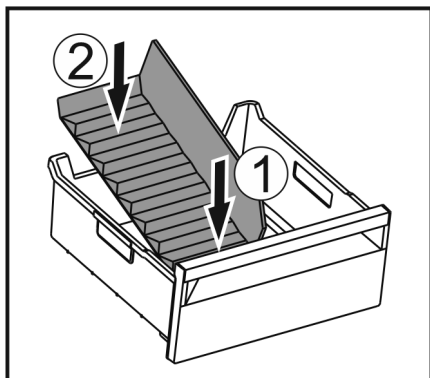

Fig. 57
- Insert the front part of the ice compartment divider. Fig. 57 (1)
- Lower the rear part of the ice compartment divider to the drawer bottom. Fig. 57 (2)